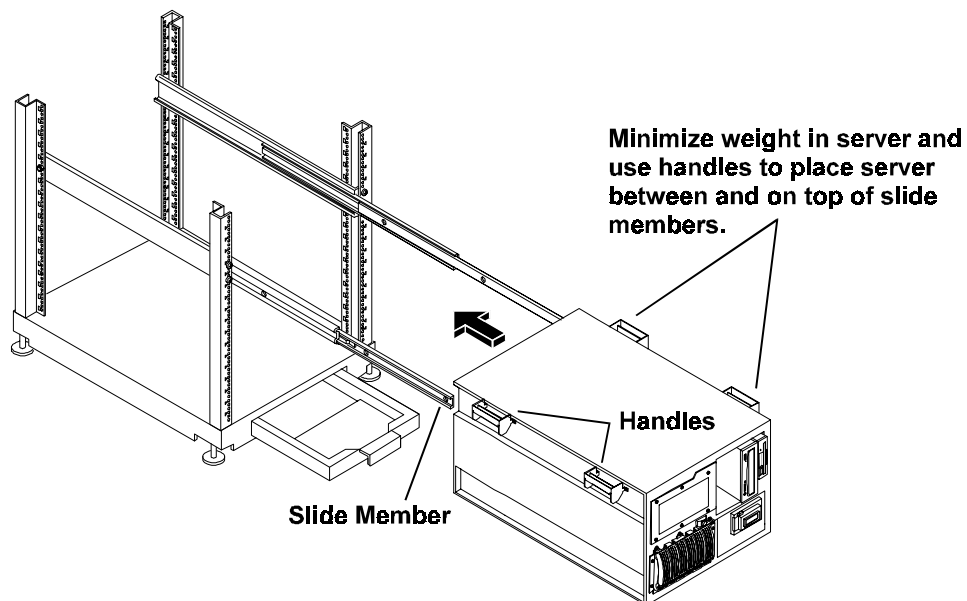

Figure 8-13. Lift and Place Server Handles on Slide Members
3. Prepare to lift the server into the rack. To do so, extend the anti-tip foot from the front of the rack, then remove power supplies from the server to reduce the total weight to be lifted. See Figure 8-13.